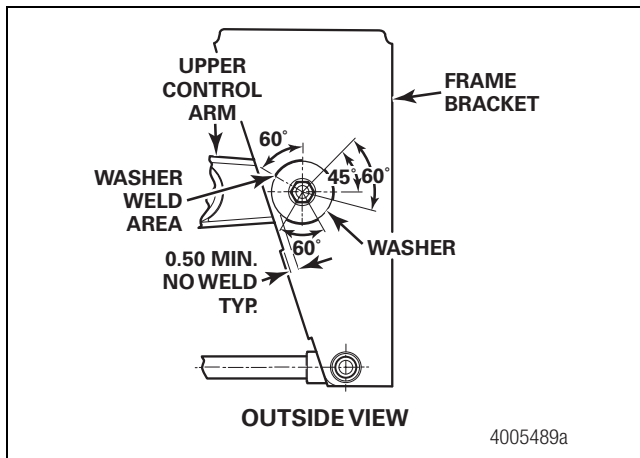
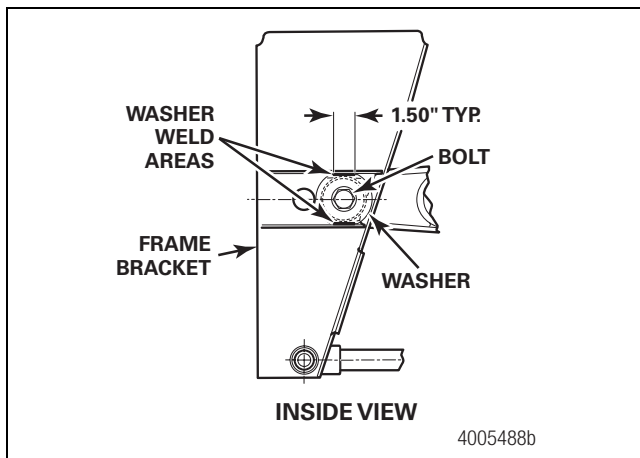

Figure 4
Figure 5
11. Weld the inner and outer special washers. Place a wet rag inside the side plate when welding the special washers to absorb the heat. Do not expose the new bushings or thrust washers to excessive heat or they will be damaged. Figure 4 and Figure 5.